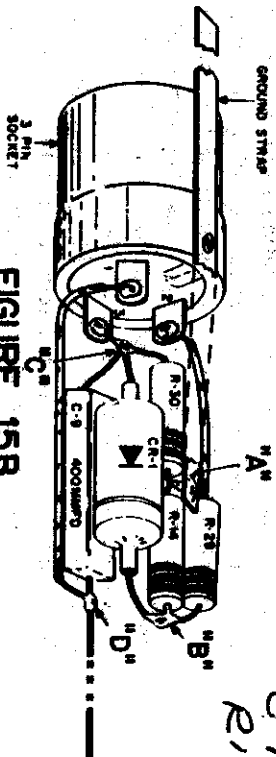

FIGURE 15B
- (✓) Position the assembled parts on C-9, a 400 MMFD mica capacitor, as shown in Figure 15B. Solder one lead of C-9 to point "C". Clip the excess capacitor lead. Clip the lead from the other end of the capacitor, leaving an  $\frac{1}{8}$  inch lead.
- (✓) Mount the metal ground strap to the 3-pin socket with the small screw, as shown in Figure 15B.
- (✓) Position the assembled parts, as shown in Figure 15B. The short lead (point "A") between R-14 and R-30 must be directly under the small hole in the end of the metal strap.